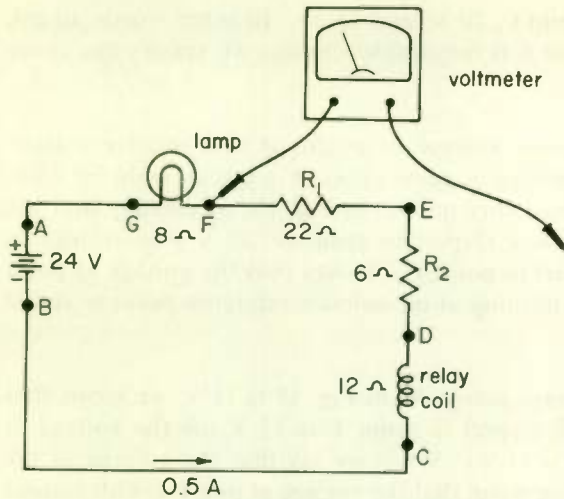

Fig. 18 The voltmeter reading depends upon where the meter is connected.
6 VOLTAGE IS ALWAYS RELATIVE . . . What is the voltage at point F in Fig. 18? To find out, we can use a voltmeter, one lead of which is, of course, connected to point F as shown. But a voltmeter has two leads, and where do we connect the other lead? If we connect it to point E, the voltmeter will read 11 V. If we connect it to point D, the meter will read
For all practical applications, voltage or potential is a relative matter; that is, we can state the voltage at some point in a circuit only by comparing that point with some other point. In Fig. 18, we can say that the voltage at point *F* is 14 V with respect to point *D*, 20 V with respect to point *C*, or 11 V with respect to point *E*. To say that the voltage at point *F* is so many volts means nothing at all unless a reference point is stated or implied.
When we say that the voltage across R_1 in Fig. 18 is 11 V, we mean that the voltage at point *F* with respect to point *E* is 11 V (or the voltage at point *E* with respect to *F* is 11 V). When we say that the voltage of the battery in Fig. 18 is 24 V, we mean that the voltage at point *A* with respect to point *B* is 24 V. However, you should not say that the voltage at point *A* is 24 V unless you are sure that the person you are talking to understands that you mean the voltage at point *A* with respect to point *B*, the negative battery terminal. For example, the voltage at point *A* with respect to point *D* is not 24 V, but 18 V.
7 POLARITY WITH RESPECT TO REFERENCE POINT . . . More often than not you will want to know not just the numerical value of the voltage between two points but also the polarity of that voltage. A voltage at a given point in a circuit is positive if it is more positive than the reference point. The voltage at point *F* in Fig. 18 is +14 V with respect to point *D*. We can tell this by the fact that the plus lead of the voltmeter must be connected to the point at which we want the voltage, point *F*, in order that the voltmeter will read forward. The voltage at point *D* is -14 V with respect to point *F* because to measure the voltage at point *D* you must connect the negative voltmeter lead to point *D* in order to get a forward reading.
1. In Fig. 18 the voltage and polarity at point *E* with respect to point *C* are _____.
2. In Fig. 18 the voltage and polarity at point *C* with respect to point *D* are (a) _____. The voltage across the relay coil is (b) _____ volts. The voltage and polarity at point *D* with respect to point *C* are (c) _____.
3. In Fig. 18 the voltage at point *B* with respect to point *C* is _____ volts.
4. In Fig. 18 the voltage and polarity of point *A* with respect to point *E* are _____.